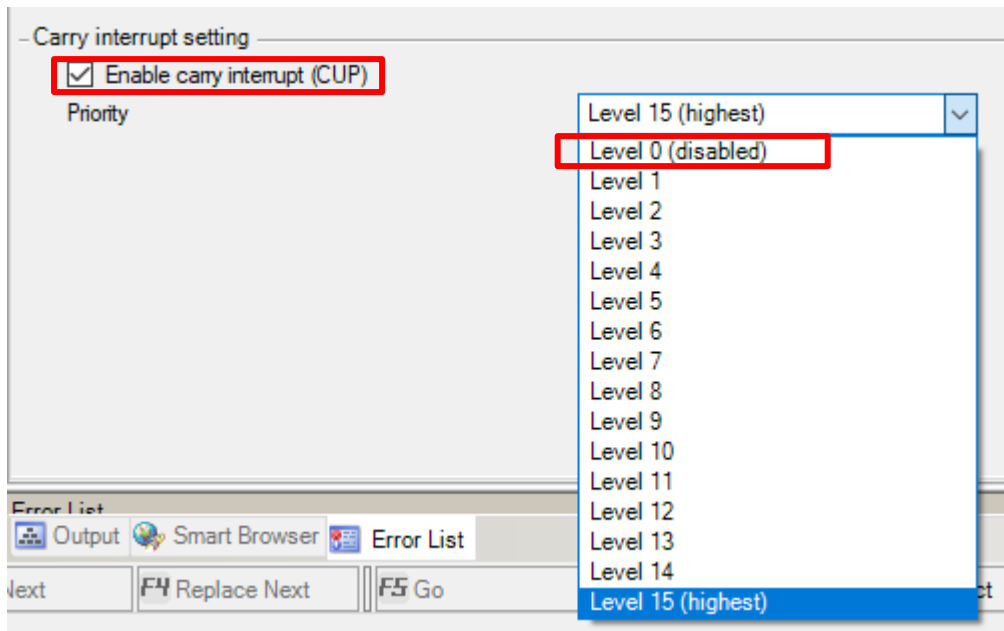

Figure 3: Carry Interrupt Setting
(2) In [Carry interrupt setting] (Figure 3) at the lower part of the [Setting] tab, select the [Enable carry interrupt (CUP)] check box, and then select [Level 0 (disabled)] for [Priority].